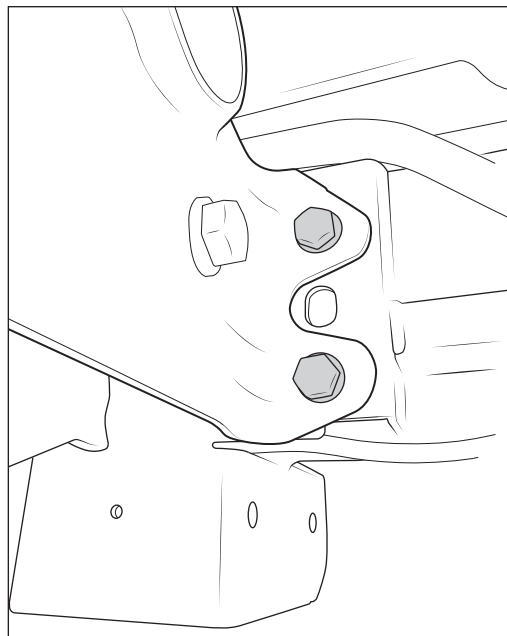

Figure 29
- Align and install the four AEV supplied M12x35 hex head bolts and M12 washers onto the backside of the mounting points of the center section (fig. 29).